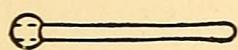

FIG. 543. — The Drum Stick.
**The Drum-stick**; cut a hole in an old tennis-ball for it to run through, and drive a nail through the ball into the end of the stick (Fig. 543).